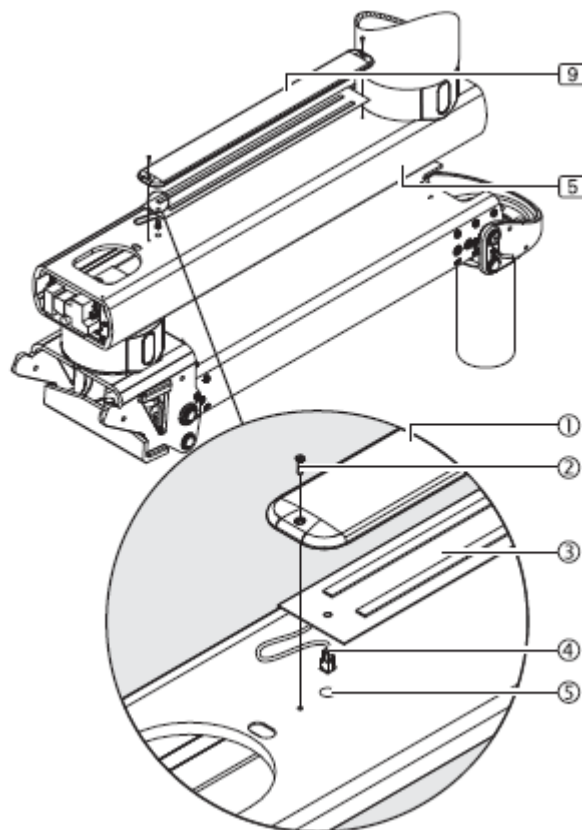

Fig. 39 Installation of indirect lighting module
The indirect lighting (9) of the extension arm (5) (lengths from 800 mm and 1000 mm for the XL model) is mounted on the upper part of the arm. Figure 39 shows a simplified representation with only the extension arm and spring arm (5) without pre-assembled cables.
- Pass the connection cable (4) of the basic holder with LED (3) through the mounting opening (5) to the extension arm without bending it.
- Place the cover (1) on the basic holder with LED (3) and screw it on with 2 countersunk head screws M4 x 16 mm (2) - DIN EN ISO 10642.
- Check that the extension arm lighting (9) is properly positioned and level with the extension arm, that the connection cable (4) is on the extension arm and that the screws are tightened securely.